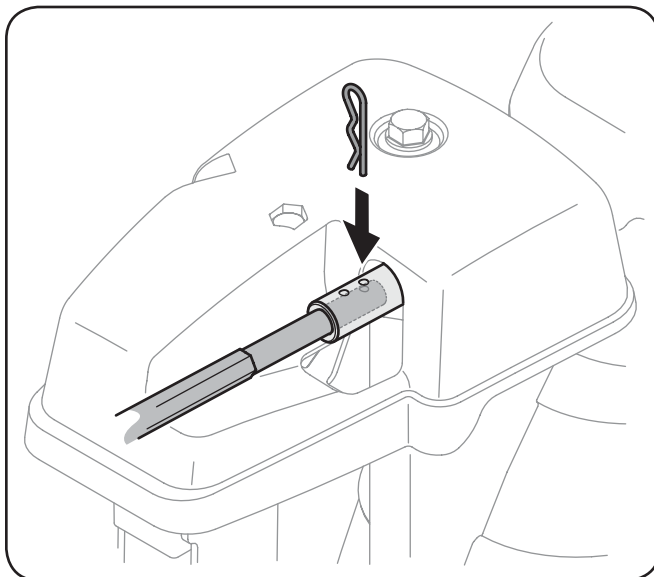

Figure 3-9
7. Push the chute control rod toward the control panel until the hole in the rod lines up with the hole in the chute control input closest to the chute control head and insert the cotter pin. See Fig. 3-9.